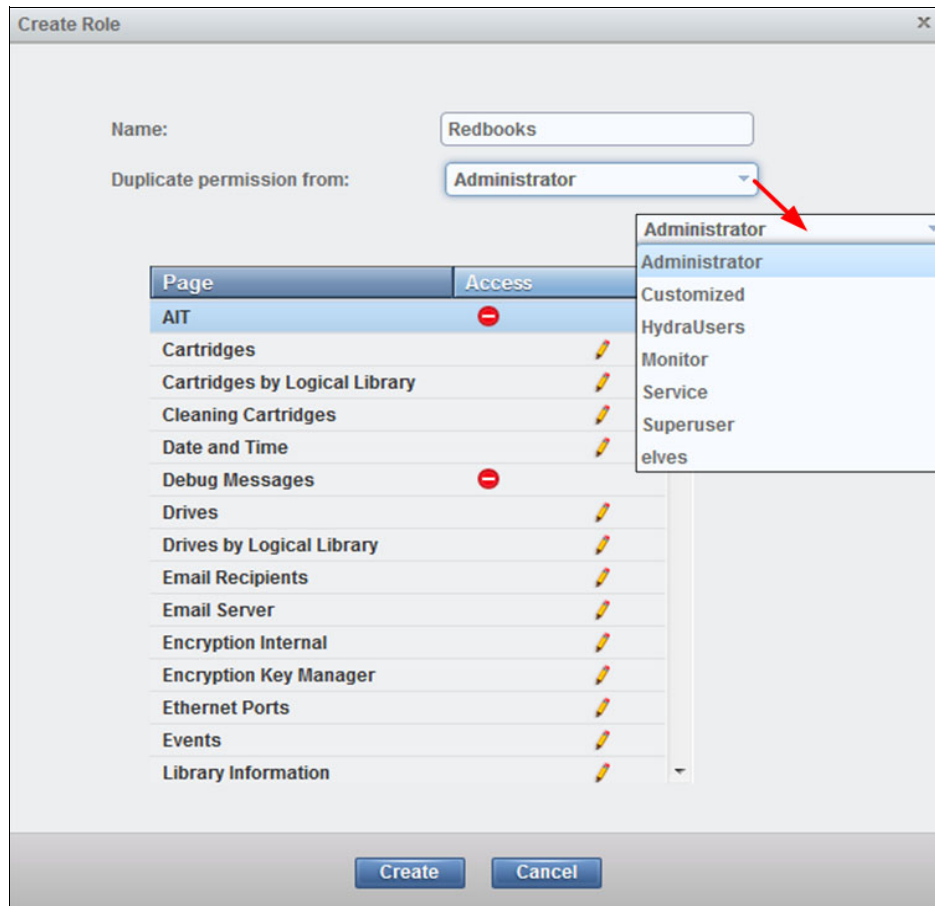

Figure 4-58 Create Role
- Then, select one of the preset role permission levels from the Duplicate permission from list box. See Figure 4-58. All roles have access to all logical libraries in the TS4500 tape library.